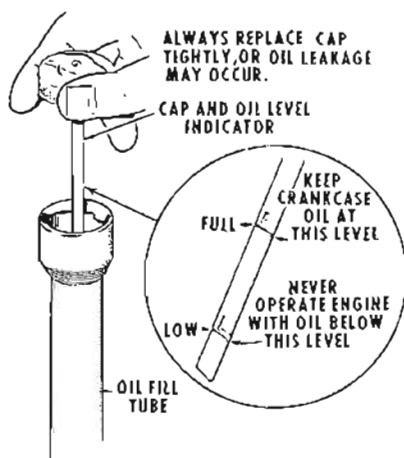

Figure A-1. Engine Lubricating Oil Level
(1) Crankcase Oil. The capacity is 6 quarts. Be sure that engine is level when filling for the first time. Fill to the full mark (F) on the indicator (fig. A-1) with proper grade of engine oil (para. 14). Do not mix brands or grades. Always install dipstick indicator air tight.